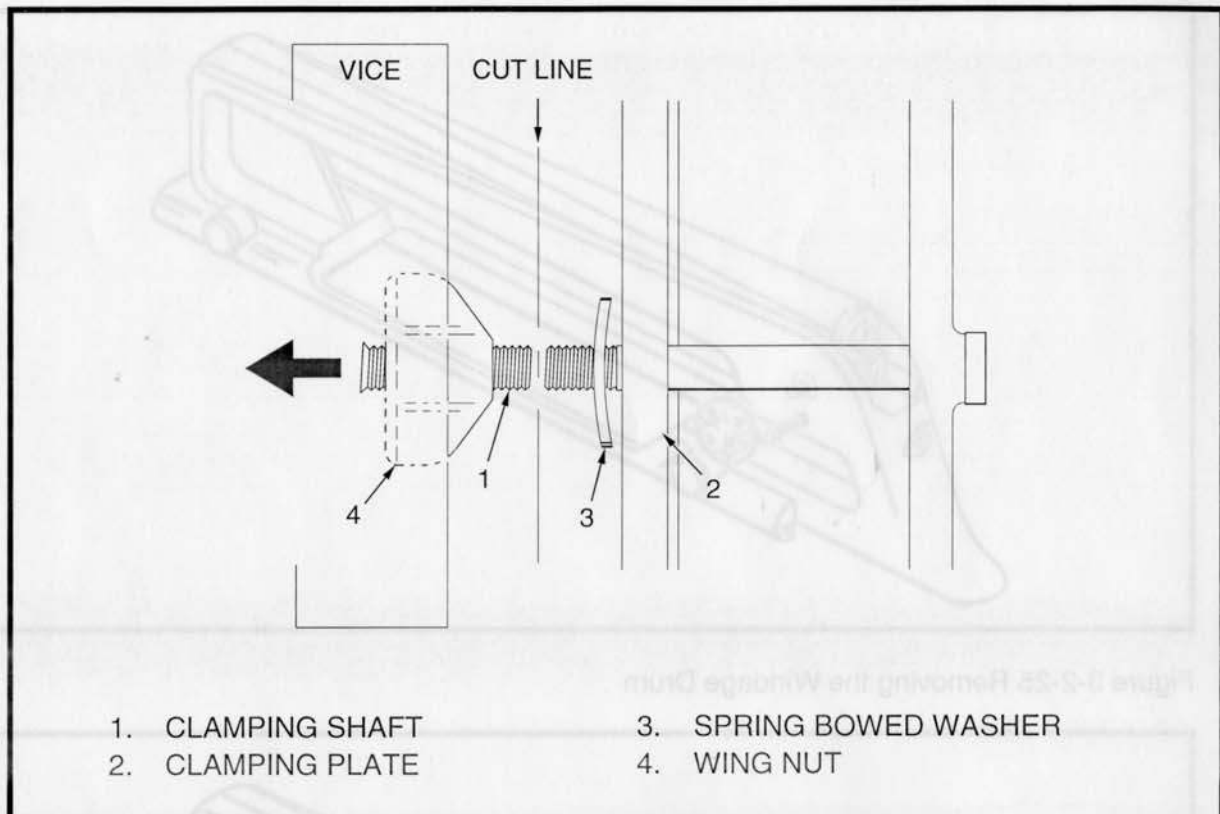

Figure 3-2-27 Removing the Wing Nuts from the DIS
- f. To remove the wing nuts, refer to Figure 3-2-27 and proceed as follows:
(1) Secure the DIS in a vice and cut the clamping shafts (1), through the threaded section, with a hacksaw.